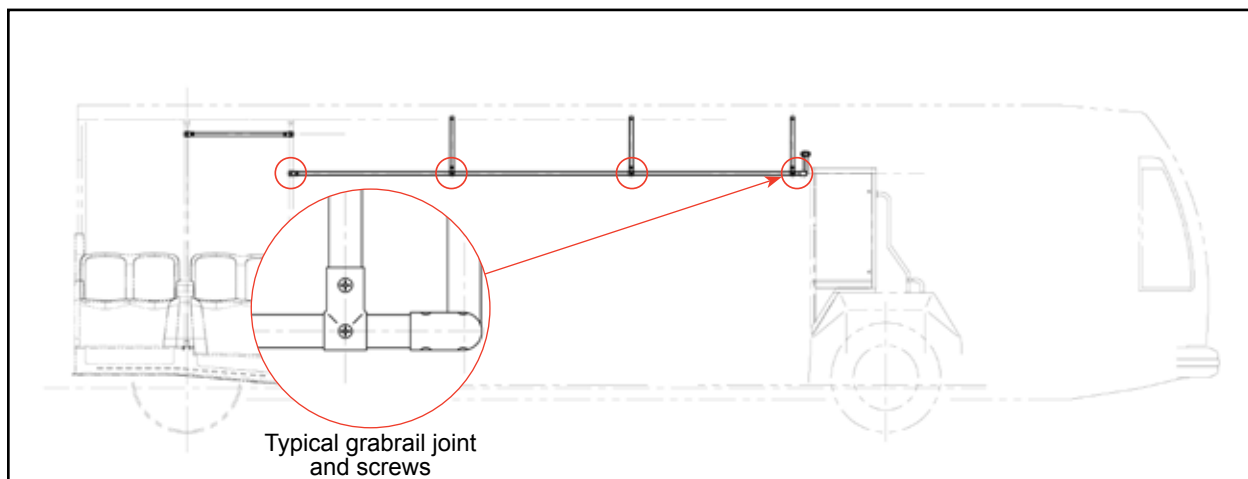

Figure 2 - Typical Grabrail
- 1.4. Remove and retain the joints and their mounting screws from the grabrails on which the spools are located. See Figure 2.